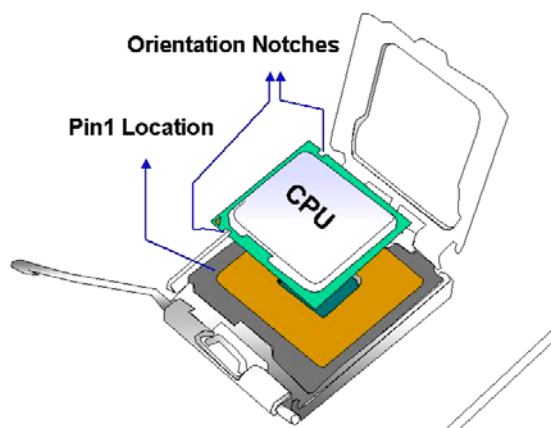

Figure 4-4: Insert the CPU
Step 4: Insert the 775-pin CPU. To insert the CPU refer to **Figure 4-4** and follow the five steps below.